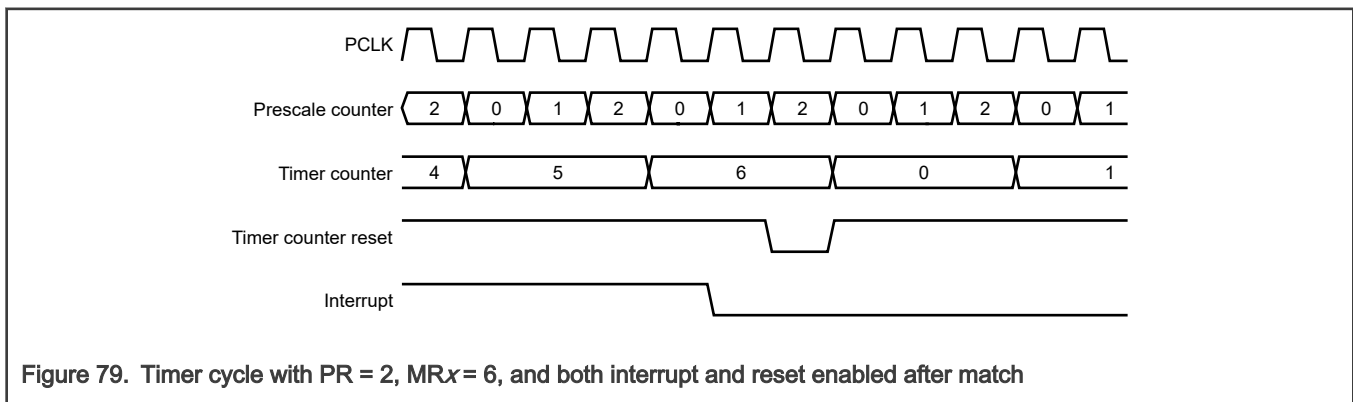

Figure 79. Timer cycle with PR = 2, MRx = 6, and both interrupt and reset enabled after match
Figure 79 shows a timer configured to reset the count and generate an interrupt after a match. The value of **Prescale (PR)** is 2 and the value of **Match (MR0 - MR3)** is 6. At the end of the timer cycle where the match occurs, the timer count is reset and gives a full-length cycle to the match value. The interrupt indicating that a match has occurred is generated in the next clock after the timer reaches the match value. Timer mode is selected in this case.